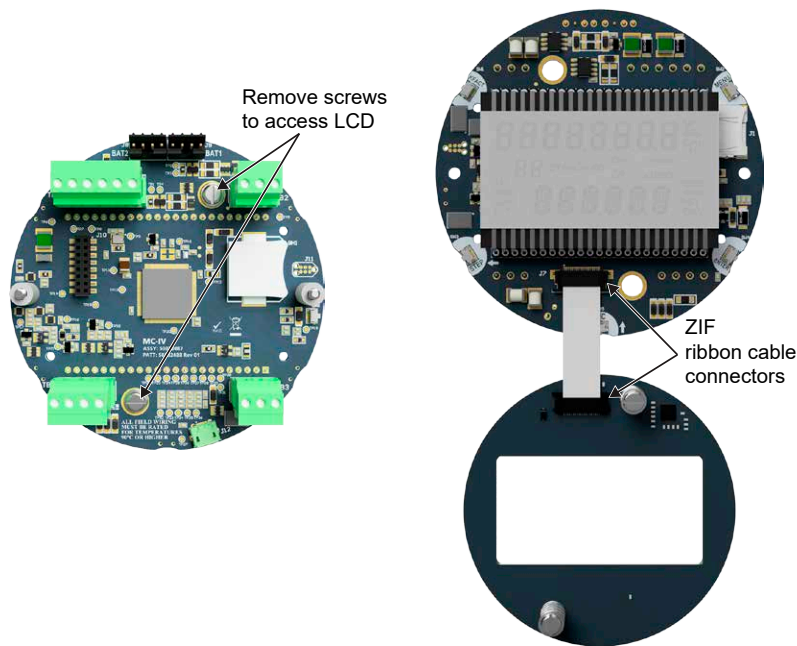

Figure 4.4—Disassembly of circuit assembly
- Remove the two #4-40 × 5/16" screws fastening the circuit assembly to the display assembly (Figure 4.4, page 82).